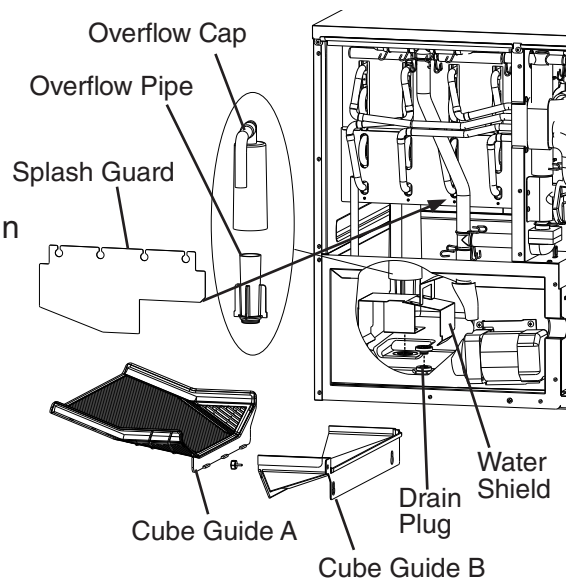

Fig. 13
- 4) Remove the front insulation panel, then remove splash guard, cube guide B, and cube guide A. See Fig. 13. Next, remove the overflow cap, overflow pipe, water shield, and drain plug. After the water tank has drained, replace the drain plug, water shield, overflow pipe, overflow cap, cube guide A, cube guide B, splash guard, and front insulation panel.